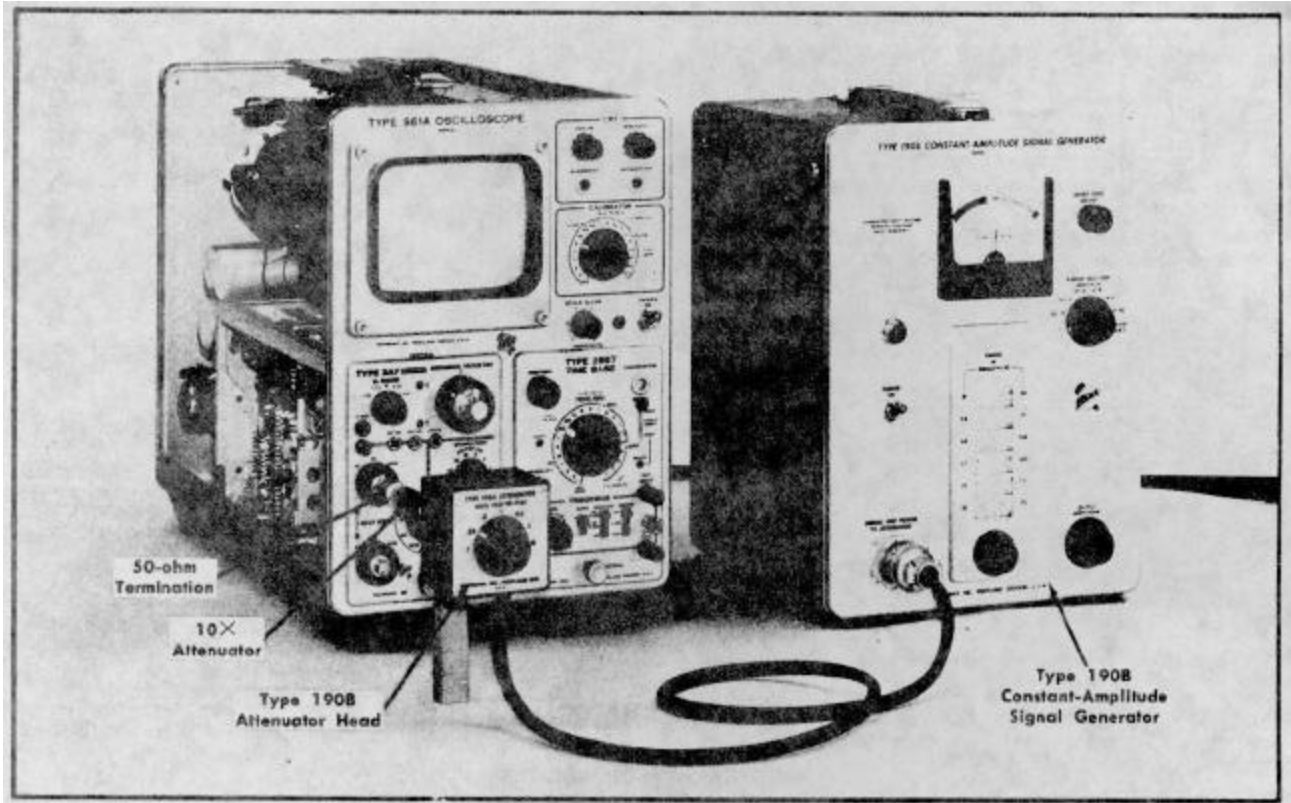

Fig. 5-46. Setup at completion of stop 36c.
c. Apply a 50-kHz 300-mV peak-to-peak sine-wave reference signal from the Type 190B to the B input connector. Use a 10X attenuator and 50-ohm termination, connected in series, to reduce and terminate the signal output from Type 190B attenuator head. Set the Type 190B attenuator-head switch and front-panel Output Amplitude control so the vertical deflection of the display is exactly 6 div (300 mV). Fig. 5-46 shows the setup. Fig. 5-47a shows the display that should be obtained.